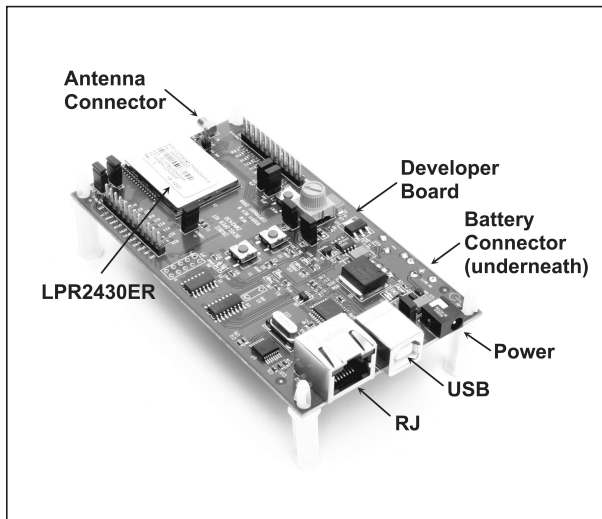

Figure 1
1. Observe ESD precautions when handling the LPR2430 series developer boards. The developer boards can be powered with either the 9 V wall-plug power supplies or the 9 V batteries. If using the wall-plug power supplies, install an AC plug on each supply and connect the power supplies to the developer boards. See Figure 1 for the location of the power connector. Do not plug in the power supplies at this time. If using the batteries, do not install them yet.
2. For the LPR2430 and LPR2430ER kits, referring to Figures 1 and 2, install a patch antenna on each developer board antenna connector. The antenna “snaps” onto the connector with moderate pressure. Antennas are built into the radio modules for the LPR2430A and LPR2430ERA kits.
3. As shown in Figure 1, there are two serial connectors on the developer boards. The RJ-45 or RJ-11 connector provides an RS232 interface. The USB connector provides an optional interface. Labels on the bottom of the boards indicate which board is the Base and which is the Remote.